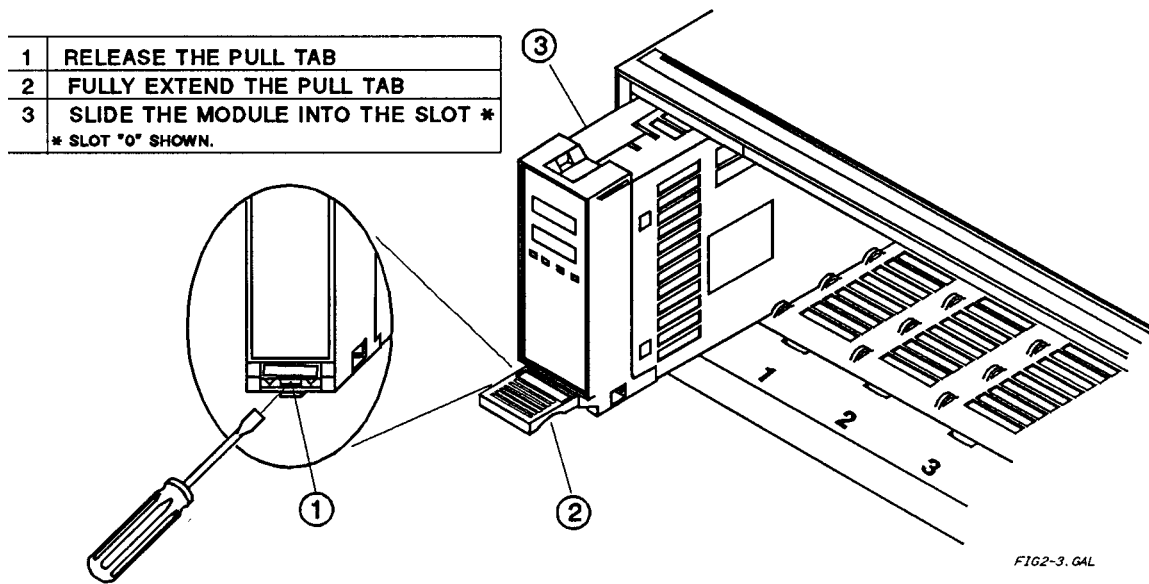

Figure 2-3. Power Module Installation
2. Make certain the pull tab extends from the module (see Figure 2-3).